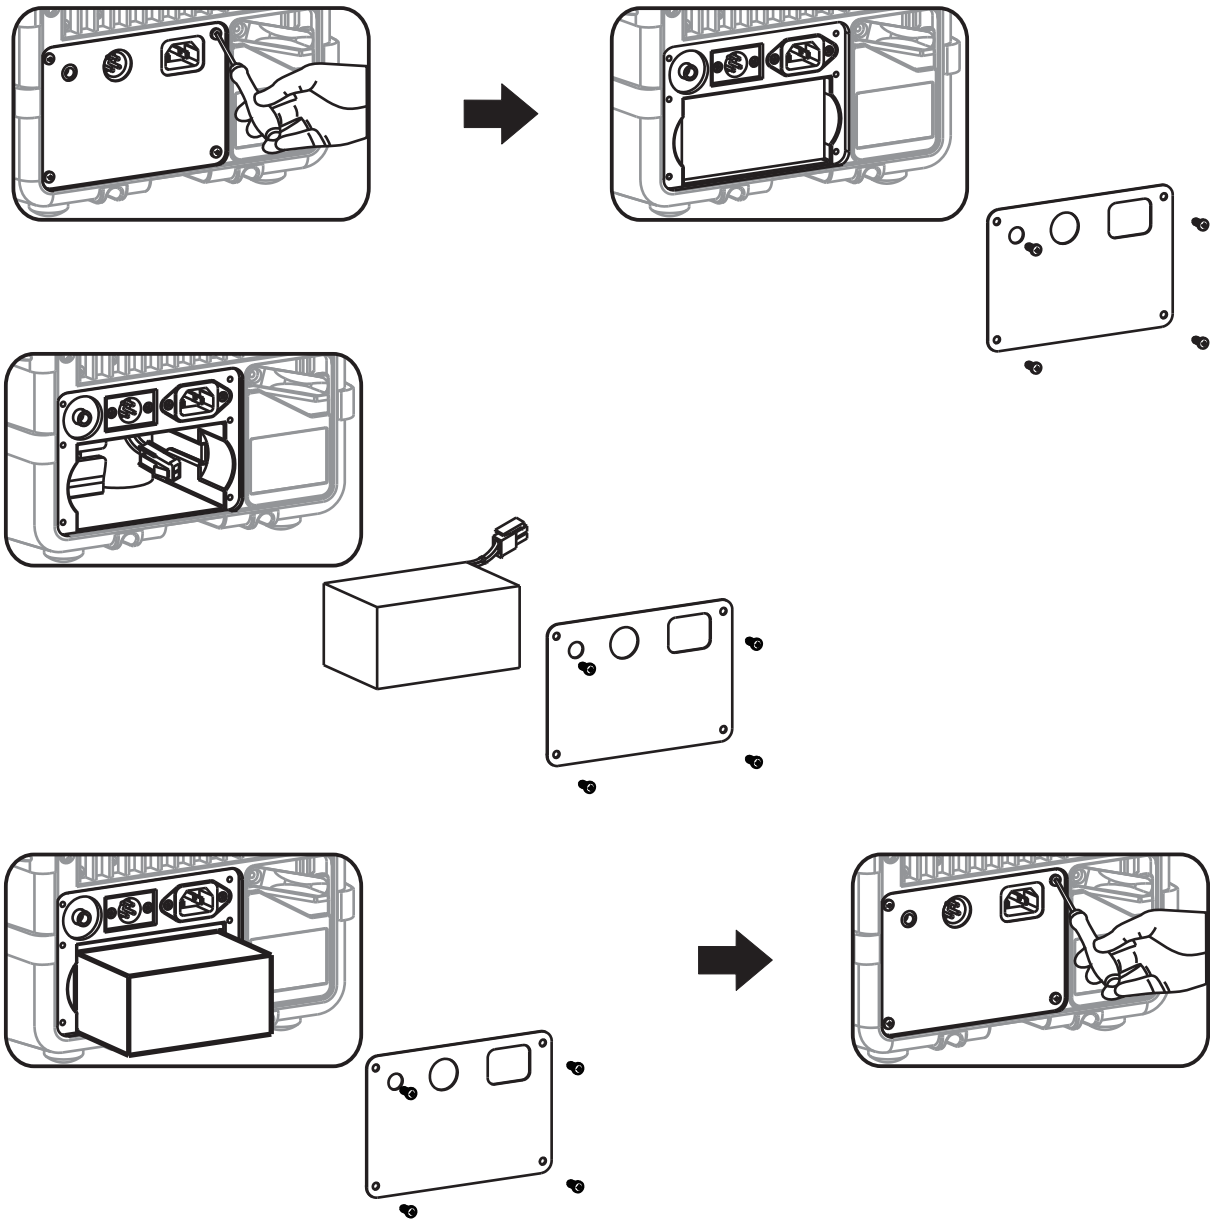

Fig. 9
V. Replace Battery, Fig. 9
1. Remove screws from Battery Cover (2) plate by using a Phillips-head screwdriver (not supplied).